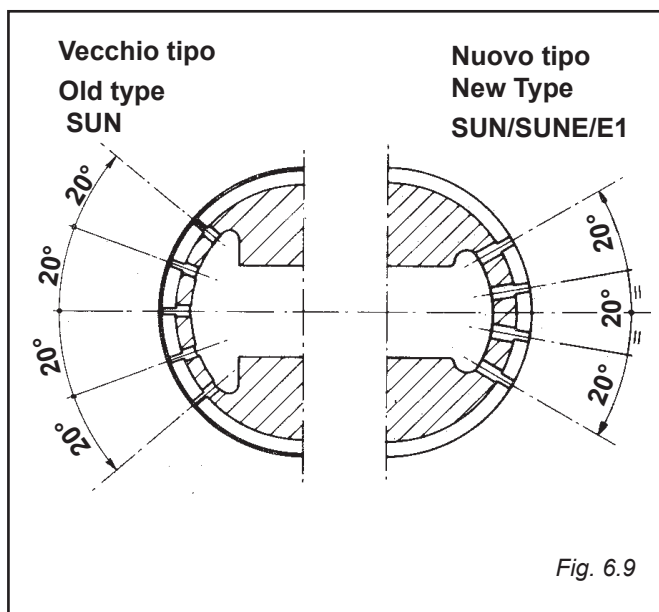

Fig. 6.9
6.7 PISTON AND PISTON RINGS (FIG. 6.9 - 6.10 - 6.11 - 6.11a)